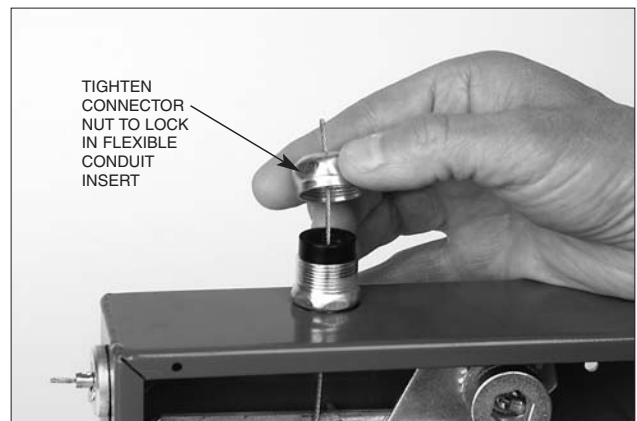

Figure 4-42.
5. Tighten the nut to the connector body, locking the flexible conduit insert in place. See **Figure 4-42**.